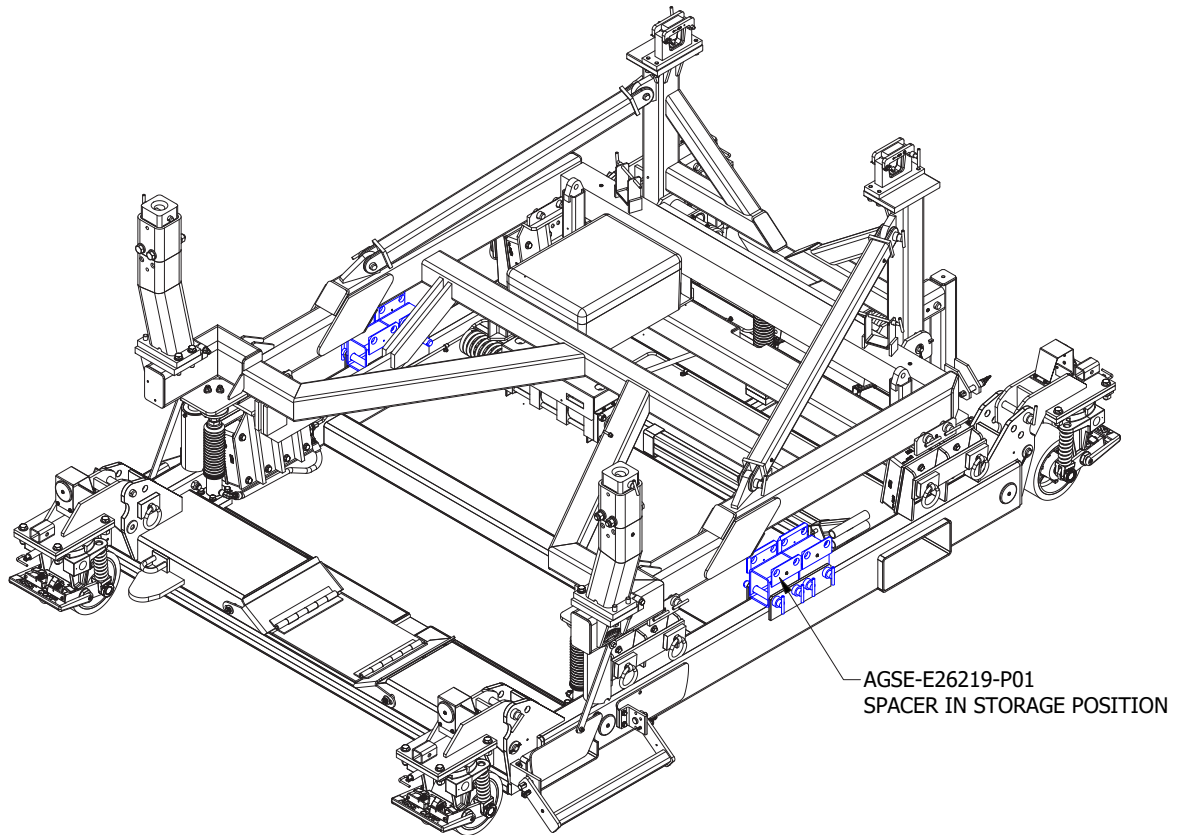

Figure 5.3-2
- 7) Store the shipping spacers as shown in Illustration Figure 5.3-2.